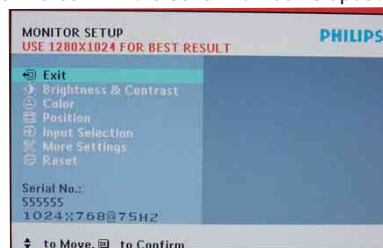

Fig.31
- 3. Re-confirm the serial Number is updated as shown in Fig.31.